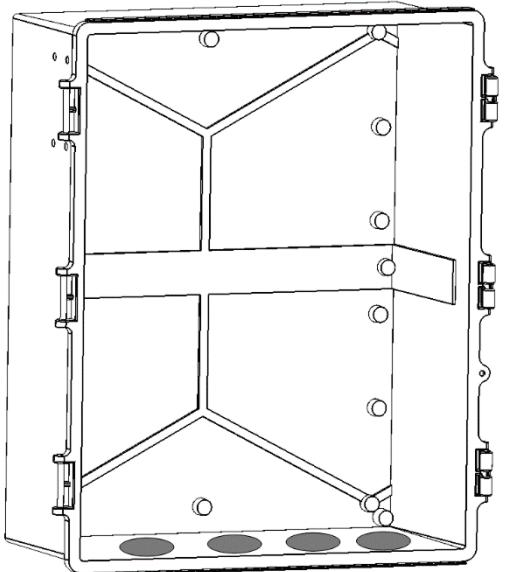

Figure 10: Hole locations (example)
- Figure 10: Relays Diagram – Inlet / Tunnel – Section 3
- **Section 3 - Thermostat and vents connection sub-unit:** Illustrated in Figure 10. Designed to connect the Tunnel curtain and the Inlet.